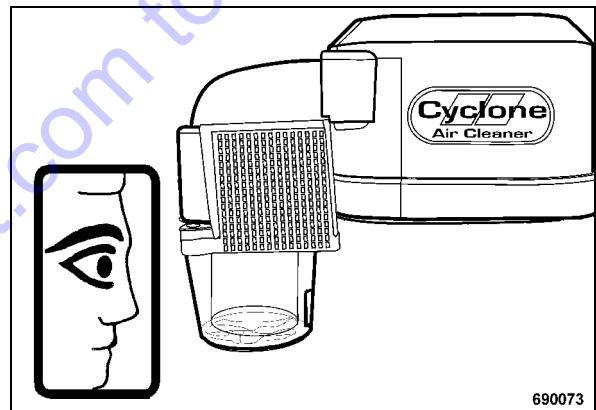

Fig. 38
- Check the cyclon in the housing cover for dirt or blockage, remove and clean if necessary (Fig. 38).